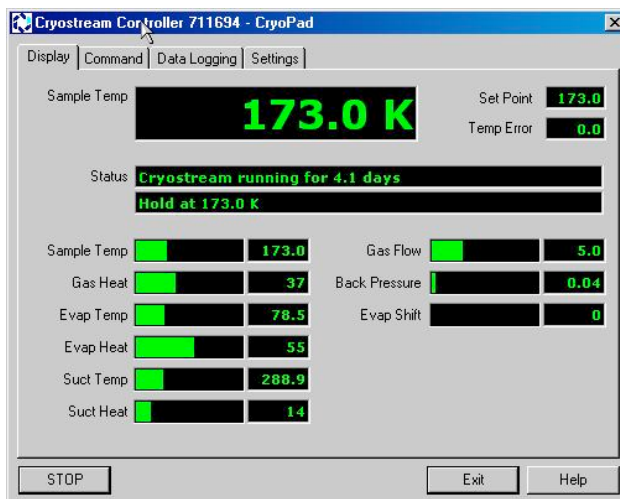
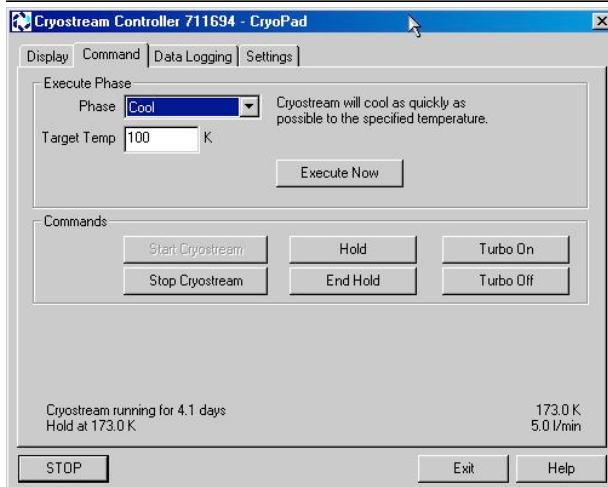

Figure 3
Figure 4
- 7) To adjust the temperature of Oxford Cryostream system, open the Cryopad program (Figure 3) on the desktop of computer right next to the diffractometer. The current setting and status are showed on the 'Display' menu. Click the 'Command' menu (Figure 4), use the 'Ramp' or 'Cool' option under Phase to set desired temperature. The program will automatically hold the temperature.